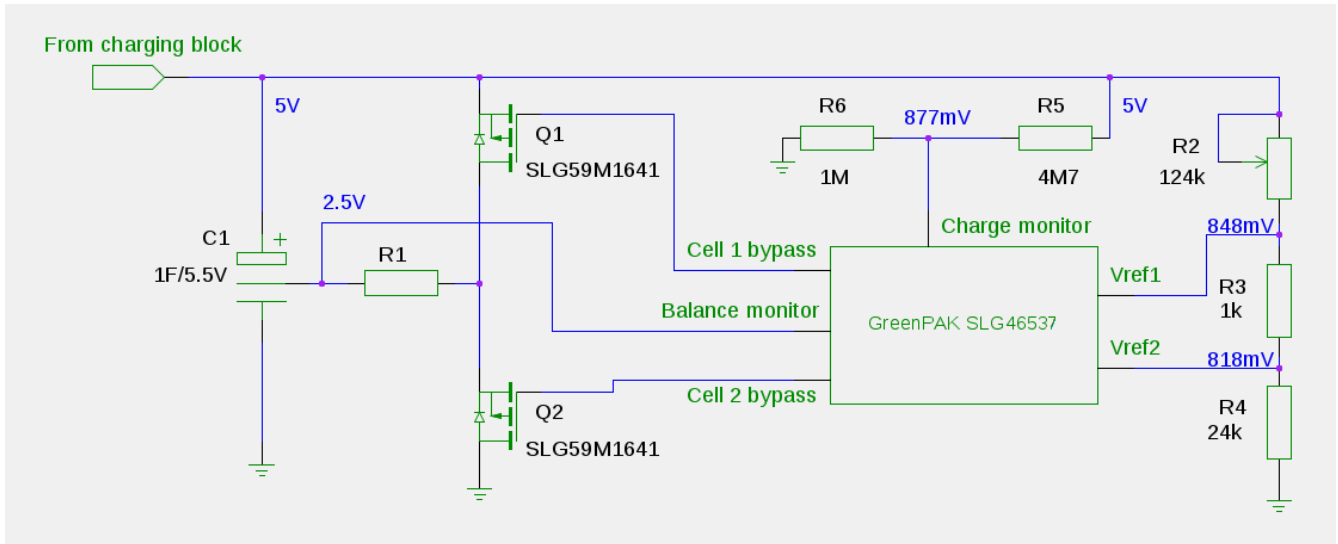
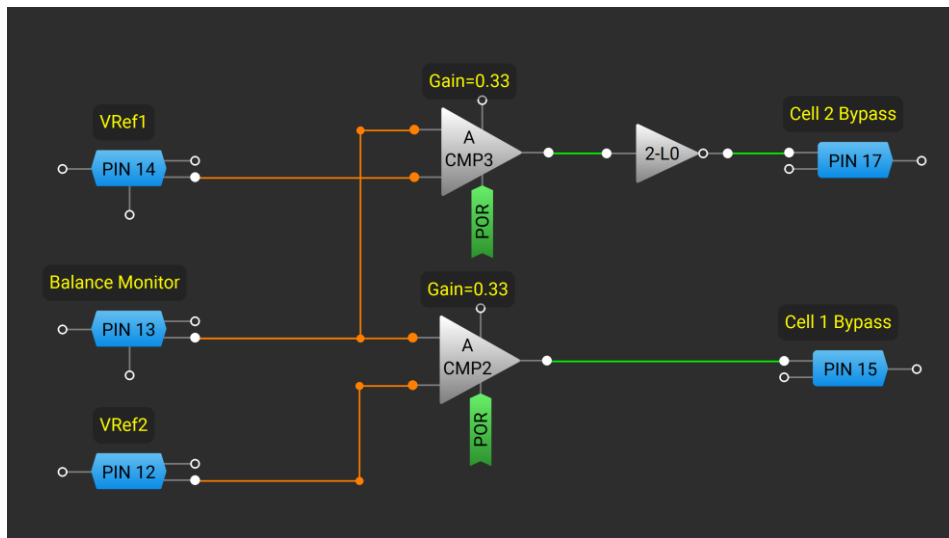

Figure 1. Cell Balancing – Schematic
Figure 2. Cell Balancing – GreenPAK Designer Diagram
**Solution.** The simplest form of cell balancing is passive: each cell has a resistor across it and all resistors have the same value. Some energy is therefore continuously lost in the resistors. In fact, the value of these resistors decreases quite dramatically for higher voltage applications. For example, with Murata’s 1F 5.5V DMF4B5R5G105M3DTA0 supercaps [1], if the maximum voltage applied is 4.5V, the balancing resistors are 47k, but if the maximum voltage is 5V, the resistors must be 4.7k $\Omega$ . A standard alternative usually proposed in the literature is active cell balancing. This, however, typically involves the use of an opamp and a couple of MOSFETs. In this Note we adopt a different strategy. This idea is shown in the following Figure 1 schematic and corresponding Figure 2 GreenPAK Designer diagram (see AN-1195 Supercapacitor-Based Backup Solutions.gp).
The schematic in Figure 1 shows the voltages present when the supercap is charged to 5V. The voltages at the ends of R4, VRef1 and VRef2, are taken as the bounds for the cell voltage difference. These voltages are taken as references for the two ACMPs depicted in the GreenPAK designer implementation (Figure 2) operated with a gain of 0.33 so that at a supercap voltage of 5V, the balance terminal reflects as a voltage of 833mV. If the balance terminal voltage is greater than VRef1, Q2 is turned on. When Q2 is turned on the midpoint voltage is dragged down, the upper cell's charge current increases, and the lower cell is slightly discharged. When the balance terminal voltage goes below VRef2, Q1 is turned on. The value of R1 is decided by the speed of rebalancing desired but we can usually choose it to match the lowest value prescribed by the manufacturer for passive balancing (e.g. 4.7k for the Murata). During the re-balancing act there is therefore some wasteful dissipation, but this dissipation takes place only when an imbalance occurs, unlike with pure passive balancing when wasteful dissipation occurs all the time. Once the supercap is fully charged and balanced, both Q1 and Q2 are off and no wasteful dissipation occurs. This allows retention of charge for a significantly longer time.